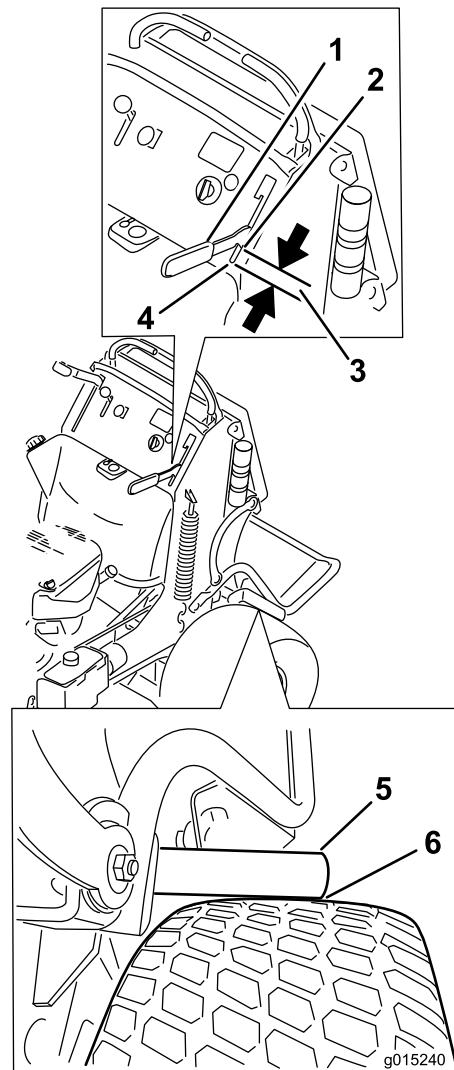

Figure 71
4. Engage the brake lever until the brake bars first contact the tire (Figure 71).
5. Measure the gap from the front of the hand lever to the end of the slot in the control panel when the brake bar contacts the tire (Figure 71).